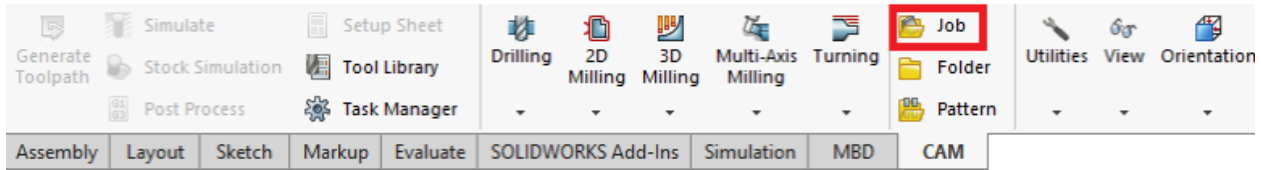

Figure 3: Job Option
- ❖ Click Job on the CAM tab as shown in fig 3: